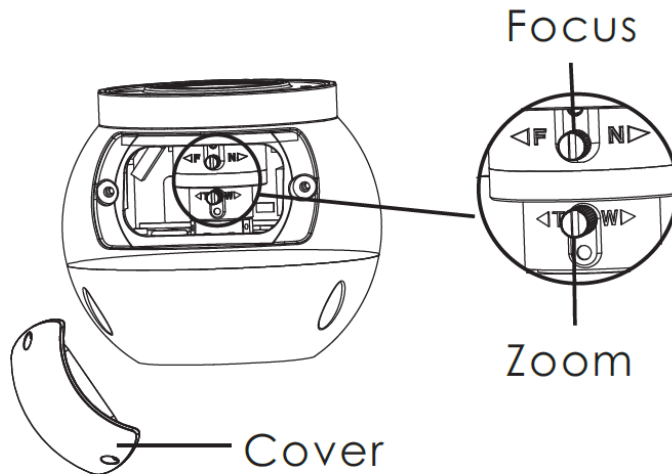

Figure 5
2. Rotate the 'Focus' and / or 'Zoom' buttons (Figure 5) as desired.